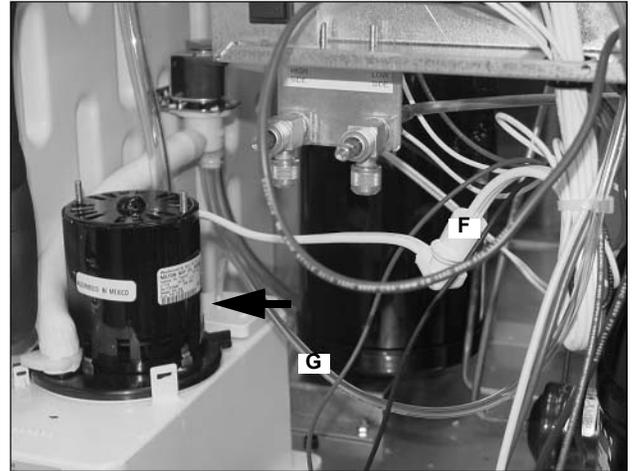

FIGURE 12
9. Disconnect the Water Pump plug (F) and Transducer Pressure Hose (G) (FIGURE 12).